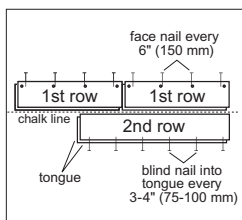

Figure 7
- End-joints of adjacent rows should be staggered a minimum of 4-6" (10-15 cm) when possible to ensure a more favorable overall appearance (Figure 7).